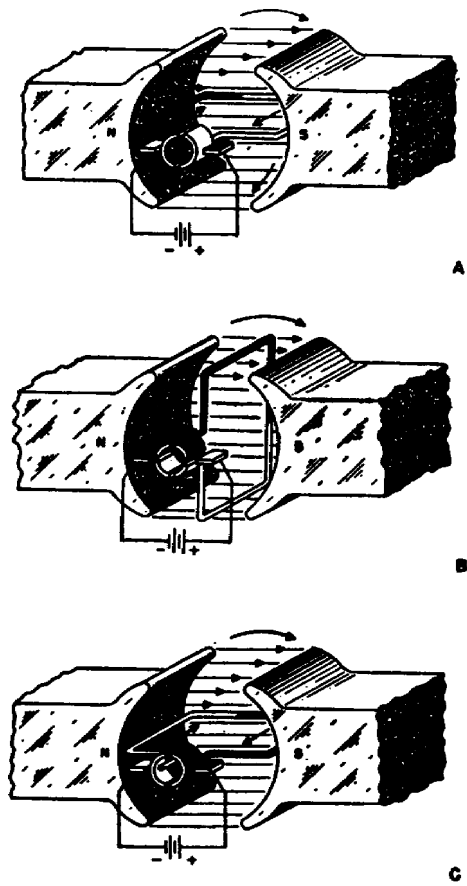

Figure 2. Armature loops.
g. In figure 2 we have added commutator bars and a larger field. In view A the left half of the loop is shown in black with an arrow to show the current is flowing from its commutator bar to the loop. The right side loop is pictured in white with an arrow showing the current flowing from it to its commutator bar. With battery current supplied through the brushes to the commutator bars, the loop would be forced to rotate clockwise. When the loop reaches and just passes the position shown in view B, look what happens. The commutator bar for the black half of the loop is now in contact with the positive (+) brush. The commutator bar connected to the white half of the loop is now in contact with the negative (-) brush. We have reversed polarity in the loop and it will continue to rotate clockwise. When it rotates another $1/2$ turn (180°), it will again reverse polarity and continue to rotate clockwise.